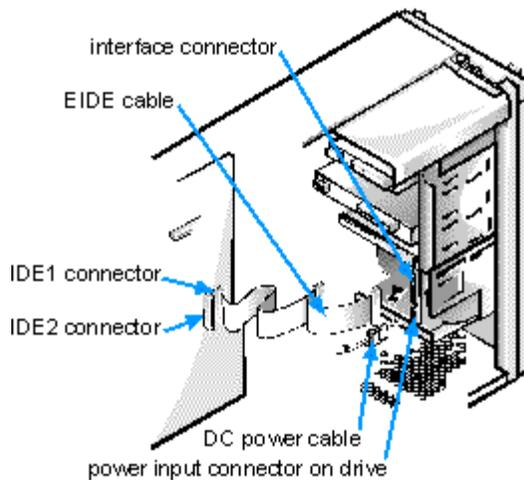

Figure 10-13. Attaching Hard-Disk Drive Cables
10. Connect a DC power cable to the power input connector on the back of the drive (see Figure 10-13).
11. Connect one of the device connectors on the EIDE cable to the 40-pin interface connector on the back of the hard-disk drive (see Figure 10-13).